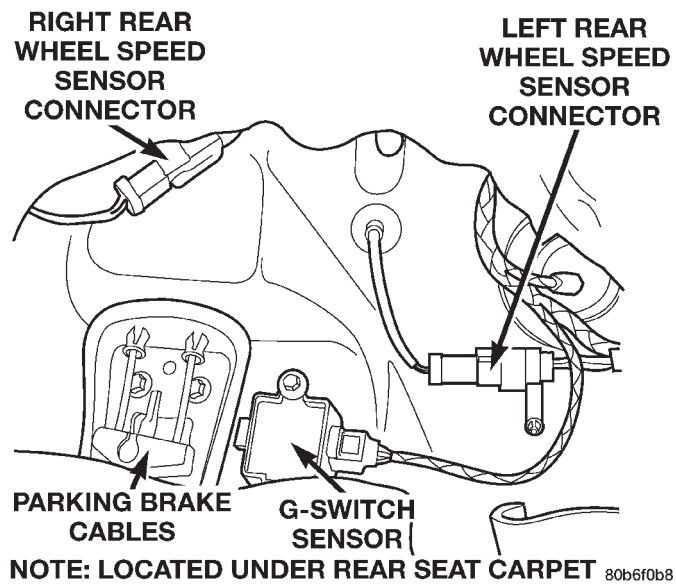

Fig. 11 Rear Sensor Connector
- (1) Raise and fold rear seat forward. Then move carpeting aside for access to rear sensor connectors.
- (2) Disconnect rear sensor wire at harness connectors (Fig. 11).